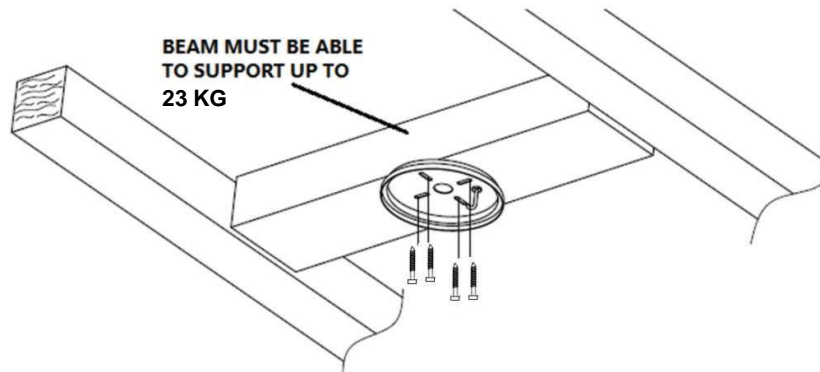

Fig. 2
- Install the hanging bracket to the ceiling joist or structure that is capable of carrying a load of at least 23kg, with the 4 long screws provided. Ensure at least 30mm of the screw is threaded into the support. (Fig. 2)